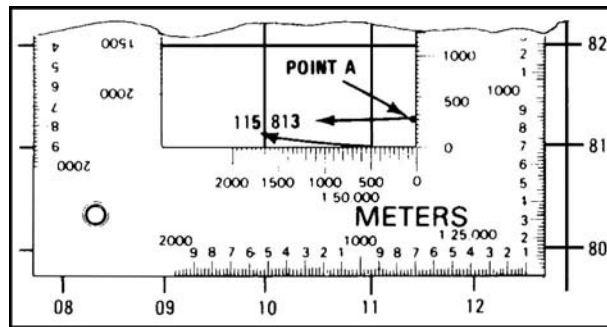

Figure 071-329-1002-7. Aligning the plotting scale
g. To determine the correct two-letter 100,000-meter-square identifier, look at the grid reference box in the margin of the map (figure 071-329-1002-8).